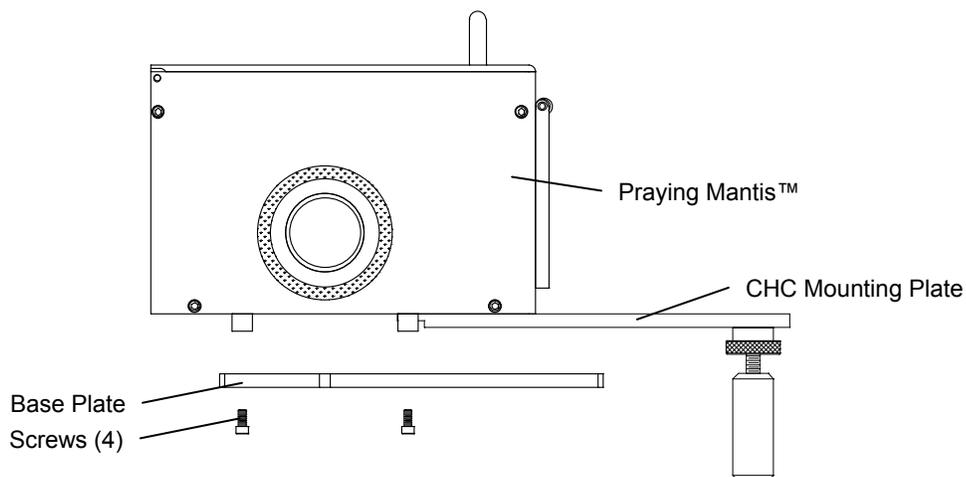

Figure 28 • Reinstalling the Base Plate
- Orient the CHC Mounting Plate as shown in Figure 28.